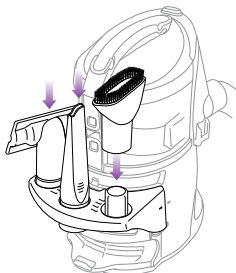

Fig. 4
- 3 Insert the crevice tool, dusting brush, upholstery brush or power brush into the openings on the tool caddy. (fig. 4)